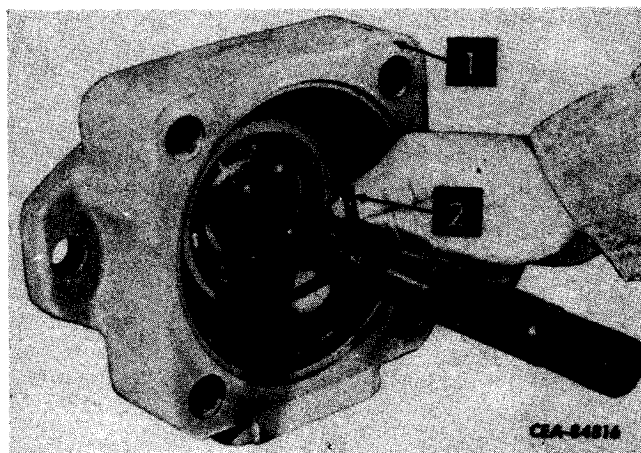

Figure 11-9
Remove Spir-O-Lox retaining ring (2, Fig. 11-9) from groove in pump body (1). Remove shaft and bearing assembly by tapping on spline end of shaft with a fiber hammer.